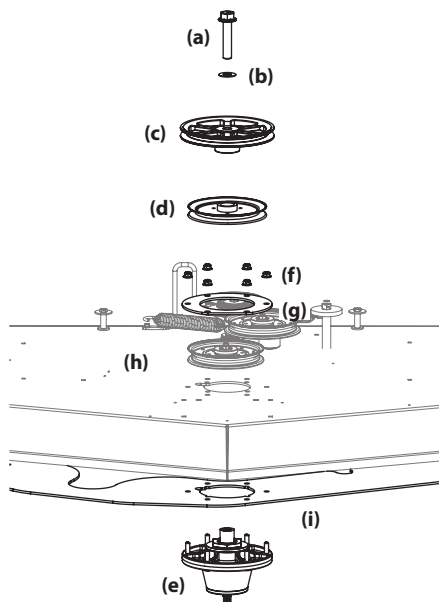

Figure 4-30
8. Remove the hex flange bolt (a) and flat washer (b) securing the drive pulley (c) and center spindle pulley (d) to the spindle assembly (e). See Figure 4-30.
9. Remove the six (6) flange lock nuts (f) securing the center (d) spindle assembly (e) and the support plates (g) to the deck shell (h). See Figure 4-30.